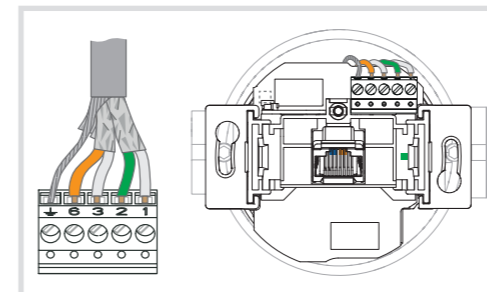

Figure 4
- Pull off 5pole terminal block (1) from the device and lay the wires according to the prescribed colour coding (Table 2). Cut off wires not required.
- Mount terminal block (1) onto the contact pins (3) (Figure 4).